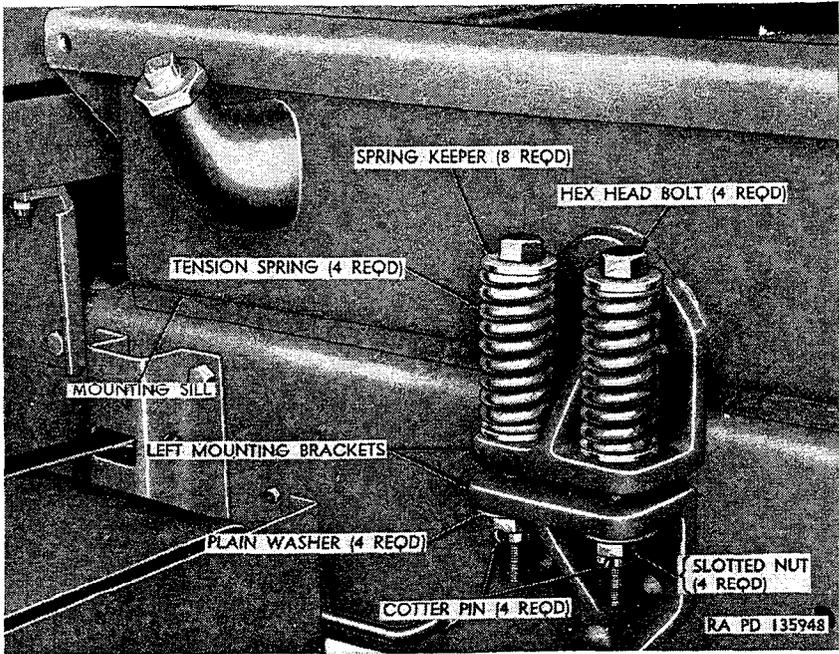

Figure 331. Subframe left front mounting M51.
- (7) Remove two cotter pins (fig. 331), slotted nuts, plain washers, tension springs, hex-head bolts, and four spring keepers
Note. Before lowering subframe, be sure that mounting sills (fig. 331) are in position on top of left and right side rails.
- (2) Aline holes in subframe left and right front mounting brackets (fig. 331) with holes in brackets bolted to left and right frame side rails, and secure with four spring keepers, two hex-head bolts, tension springs, plain washers, slotted nuts, and cotter pins.